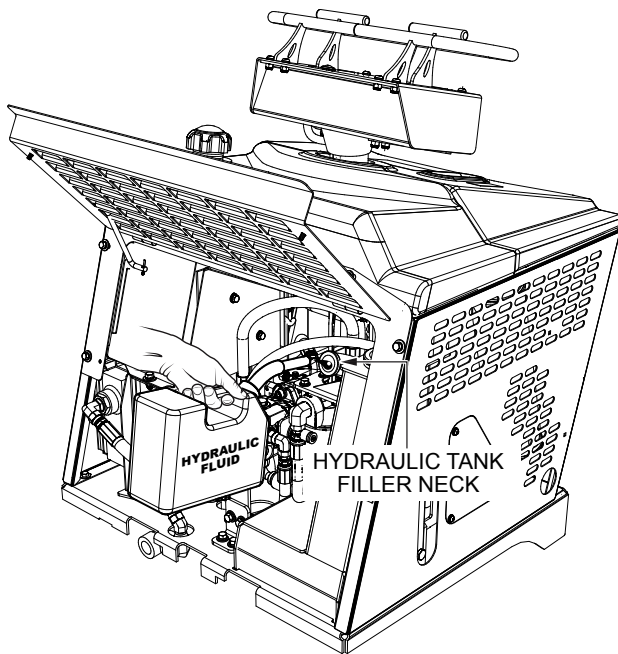

Figure 39. Adding Hydraulic Oil
8. Remove the hydraulic oil filler cap (Figure 39) and add hydraulic oil as required. Fill to the normal operating mark as indicated on the hydraulic oil sight gauge.